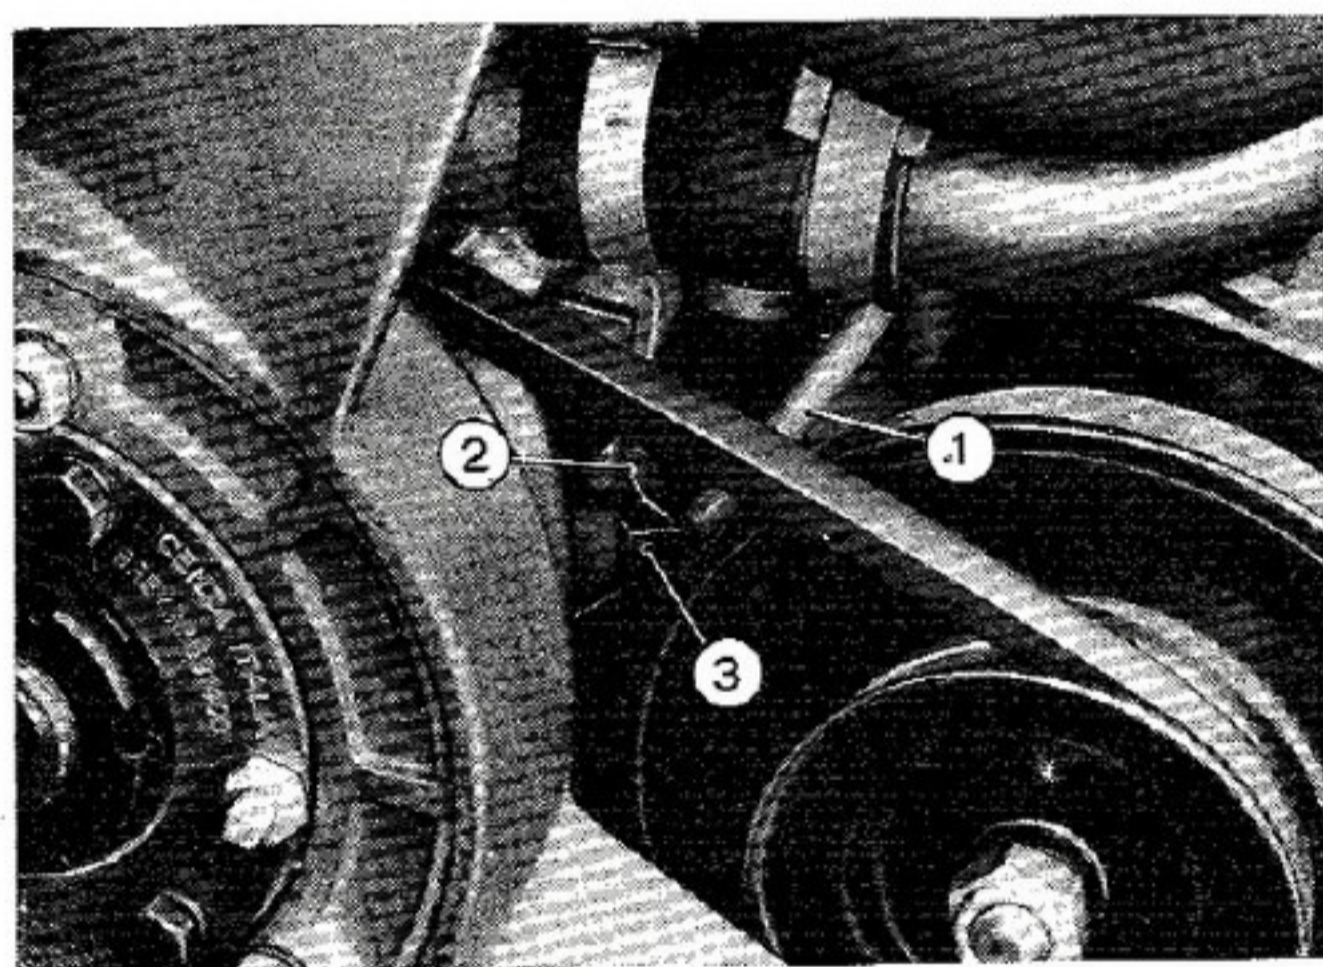
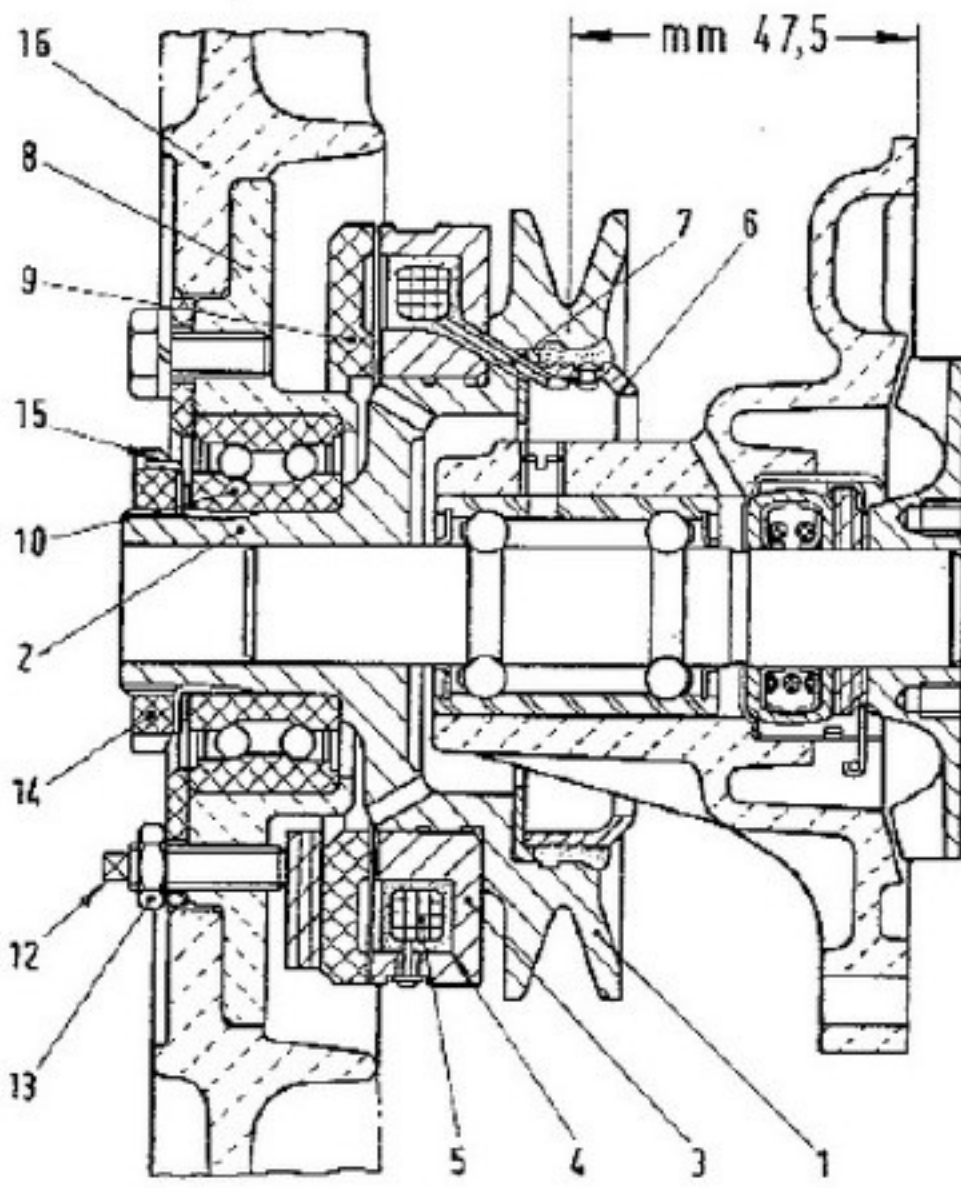

Fig. 56. - Detail of electrical connection between thermostatic switch, carbon contact and slip ring.
Fig. 57.
shaft and with the seats designed to receive the electromagnet yoke (3, fig. 57) and slip ring (6). The electromagnet yoke (3) is made of magnetic
2) **Fan-hub unit**, including the hub (2, fig. 57) on which the fan (16) and the electromagnet armature (9) are fixed.
- slacken the locknuts (13, fig. 57) of adjustment screws (12);
- turn in or out screws (12), as required, measuring each time the air gap with a feeler gauge near the screw used for the correction;
- after adjustment, tighten nuts (13) of screws (12).
- wipe accurately slip ring (6, fig. 57) with a clean cloth;
- unhook spring fastener (2, fig. 56), pull out brush holder (18, fig. 59) and check wear and contact conditions of carbon (17) and of its pressure spring; make sure the carbon contact slides freely in its seat. Replace worn parts as required; .
- upon reassembly, make sure spring fastener (2, fig. 56) exerts sufficient pressure.
If after joining the wires, the fan does not engage, the trouble may be due to failure of the lead (7, fig. 57) connecting the slip ring to the coil; also in this case, continuous operation of fan may be ensured — **temporarily** — by proceeding as described under para. 2).
To replace pulley (1, fig. 57) and electromagnet (5), proceed as follows:
- Free the spring fastener of brush holder (18) and take off the holder.
- Straighten the lock plate (15, fig. 57) and using wrench **A. 50090**, remove the slotted ring (14) locking the fan support bearing (10).
- Pull out fan assembly (16) with hub (2), electromagnet armature (9) and bearing (10).
- With the proper puller, extract the electromagnet-pulley assembly (1 and 3, fig. 57) from water pump bearing shaft.
pump cover seating plane is 47,5 mm (1.87") (fig. 57).
- Temporarily fit the brush holder (18, fig. 57) into its seat and check, by turning the pulley, that brush (17) seats evenly all around slip ring (6).
- With a press, drive the pulley (1, fig. 57), complete with electromagnet, onto the pump bearing shaft. The two parts must be perfectly co-axial and the specified pinch fit for a correct assembly is 0,012 to 0,06 mm (.0005" to .0024"). The parts must be so assembled that the **distance between pulley groove centerline and water**
- On pulley hub (2, fig. 57) fit fan (16) complete with its hub (8), electromagnet armature (9), bearing (10) and lock plate (15); using wrench **A. 50090** lock the bearing by slotted ring (14) and secure in place by suitably bending the lock plate.
Next, insert brush holder (18, fig. 57) in its seat and secure in place with the spring fastener (2, figs. 56 and 61).